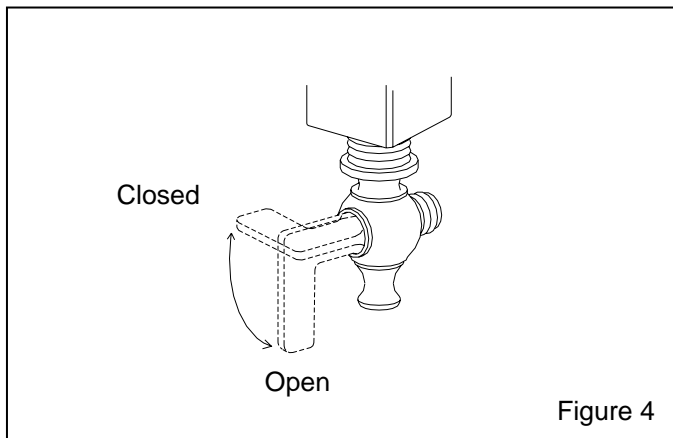

Figure 4
3.2.10 Open the safety petcock on the inlet section of the Millennium valve. It is open when the lever is in-line with the petcock, as shown in Figure 4.